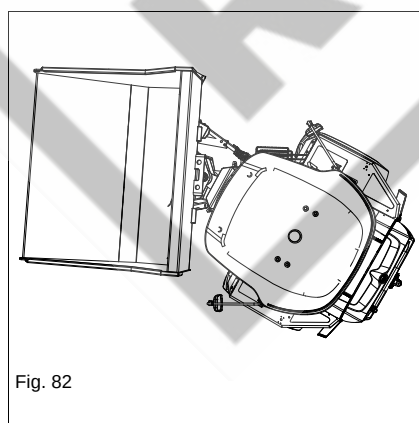

Fig. 82
1. Steer the machine as shown in *Fig. 82*. Stop the engine.